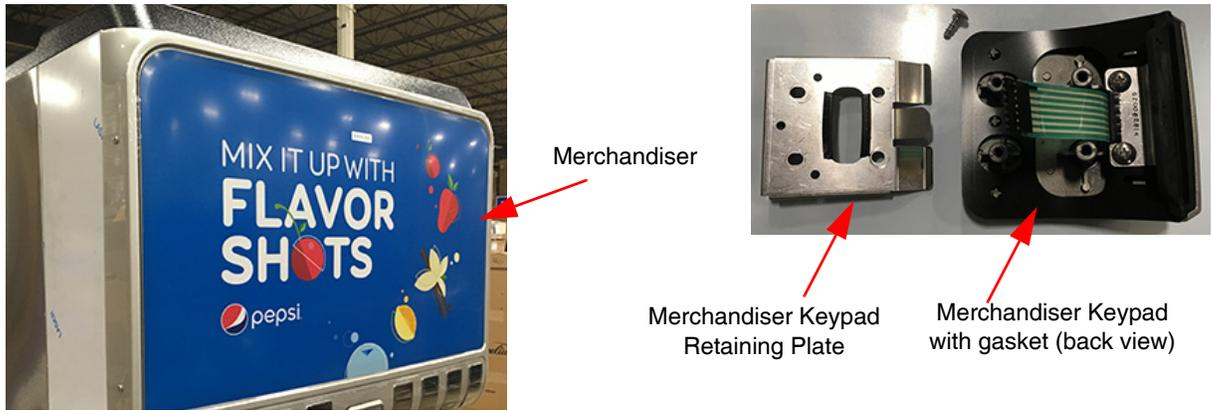

FIGURE 26
1. Locate the Merchandiser and install the Merchandiser keypad. See FIGURE 26.
1. Locate the Merchandiser as shown in FIGURE 26 (left). Then, proceed to Step 5.